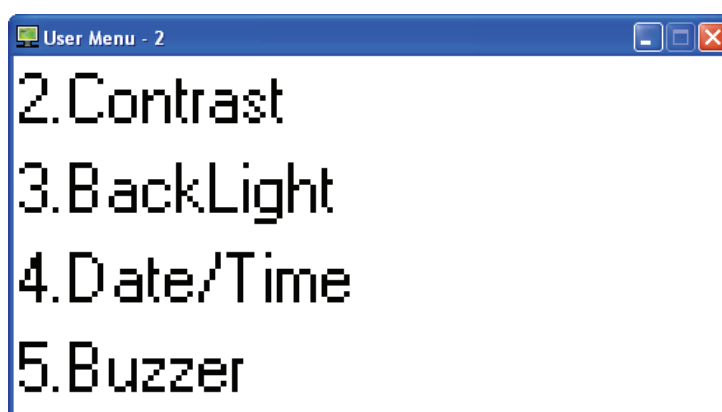
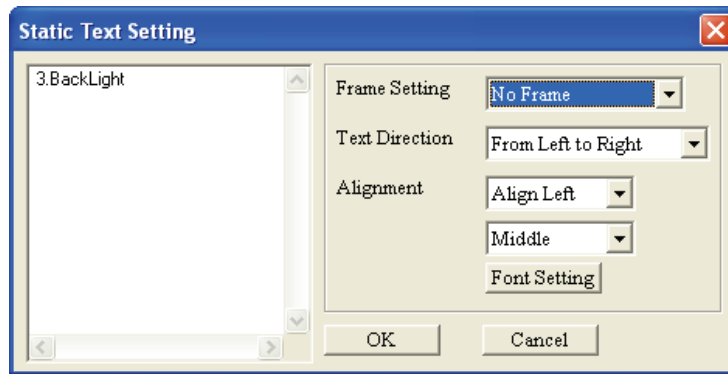
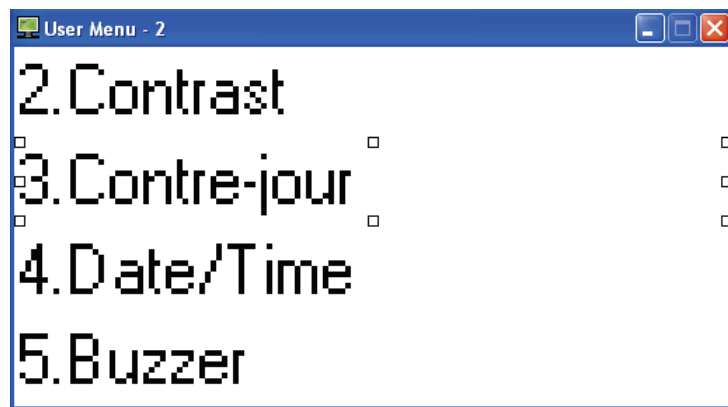

Figure 1-35
Figure 1-36
Figure 1-37
Step 3. Choose the screen that the users want to modify. Double-click the desired item, the Static Text Setting tab will appear to let the users change the language (Figure 1-35, Figure 1-36, Figure 1-37).